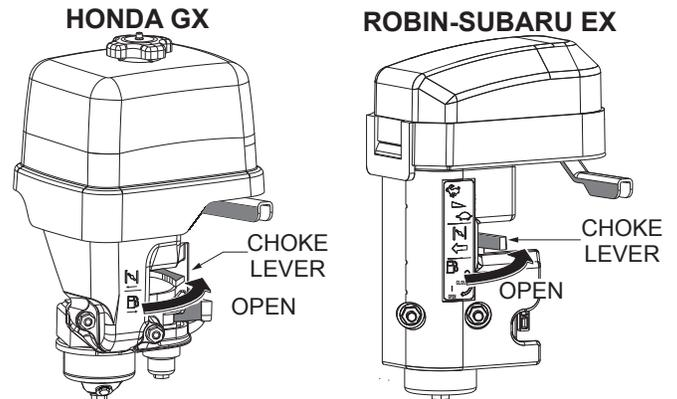

Figure 31. Choke Lever (OPEN)
5. If starting a warm engine, place the choke lever in the **OPEN** position (Figure 31).